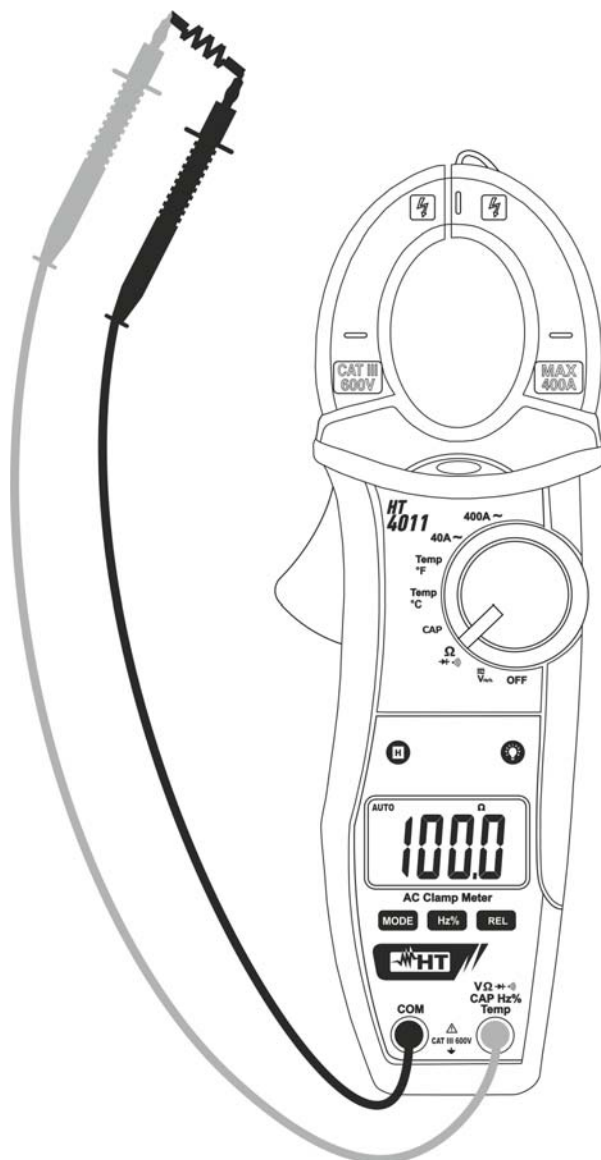

Fig. 6: Use of the clamp for Resistance measurement
3. Position the test leads in the desired points of the circuit to be measured (see Fig. 6). The display shows the value of resistance